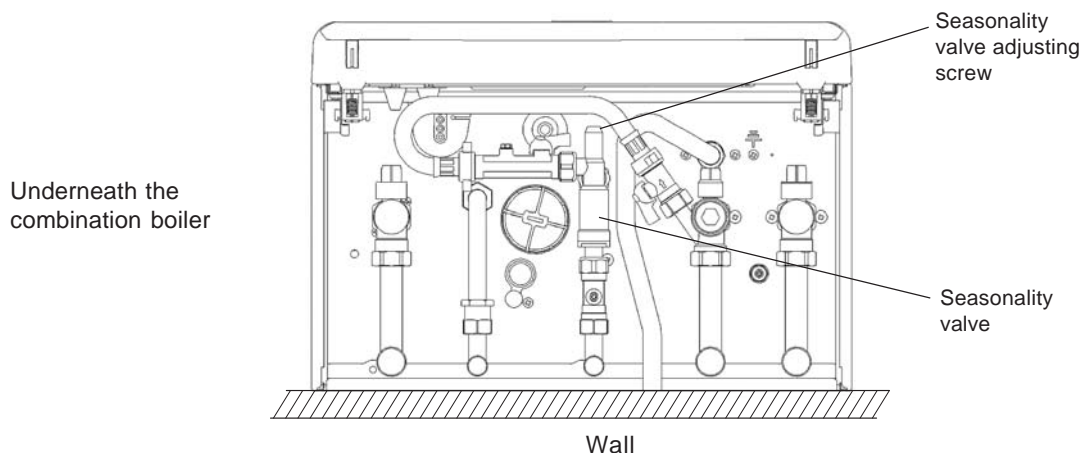

Fig. 8 - Location of seasonality valve
4.5 ADJUST THE SEASONALITY VALVE - See Fig. 8
Adjust the seasonality valve on the combination boiler by turning the adjusting screw fully clockwise, as shown in Fig. 8. This will allow the maximum flow rate through the boiler.